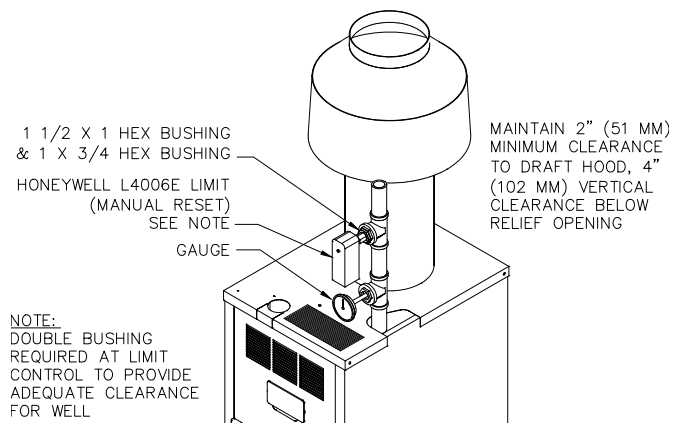

Figure 7.1: CSD Piping
2. Manual reset high limit, such as Honeywell L4006E1117 (50536). Install in supply piping. See Figure 7.1.